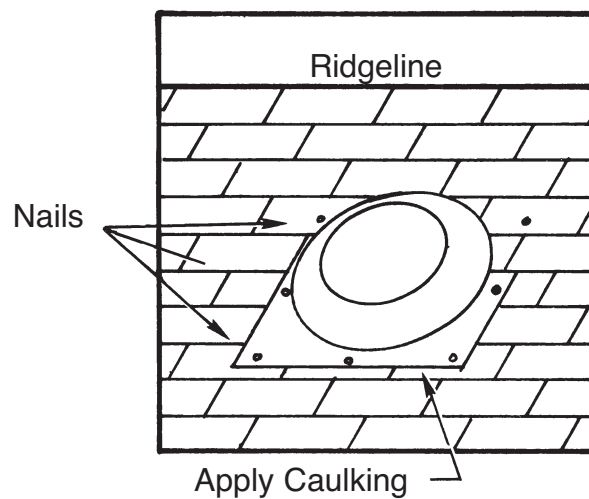

FIG. 3
4. With mounting plate parallel to ridgeline of roof, slide the upper outer flange of the plate under the row of shingles just above the cutout so that the housing portion of unit can be centered in the cutout opening. See Fig. 3.
6. With unit in place, nail the top left corner and top right corner of flange to roof decking and rafters with galvanized roof nails. This is accomplished by nailing directly through the aluminum plate. Nail the bottom of the flange the same way. Check to be sure all shingles are securely and neatly in place over top portion of flange. See Fig. 3. Caulking nail heads is recommended.